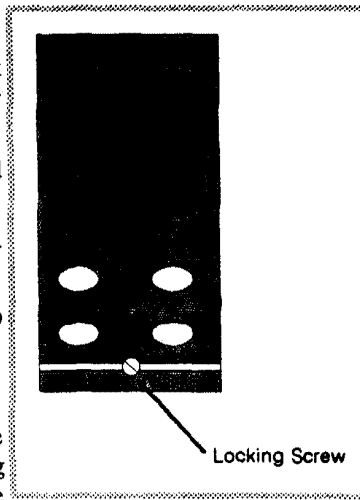

Figure 2-4 Location of Locking Screw
1. With a flat-bladed screwdriver of appropriate size (1/4-inch), rotate the locking screw (see Figure 2-4) anticlockwise until the locking screw thread is completely dis-engaged. This will partially move the controller out of the housing and dis-engage the connections at the rear of the controller (inside the housing).